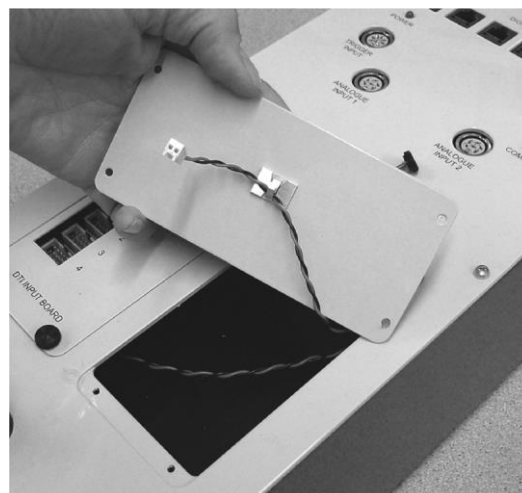

Figure 15 Carefully Lift the Blank Plate
3. Carefully lift the blank plate (see Figure 15).